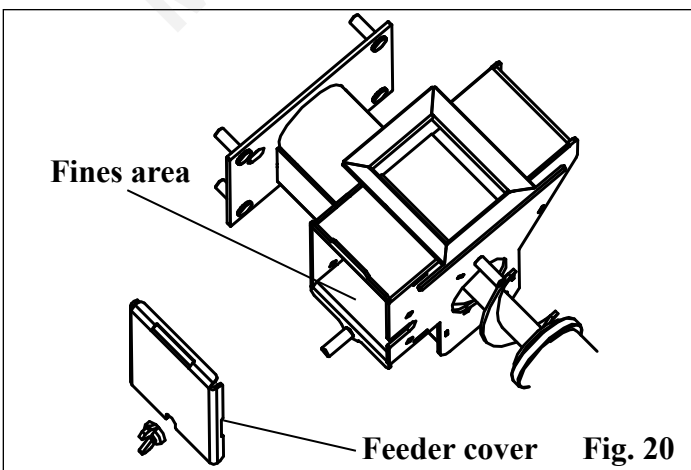

Fig. 20
## Feeder Chamber (Fig. 20):
- Inspect and clean the inner chamber as necessary. See Fig. 20.